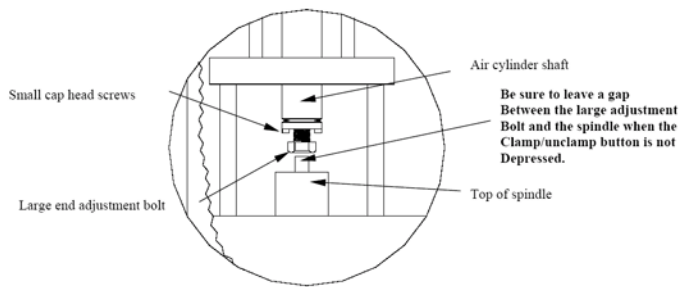

Figure 3
3. Loosen the two small cap head screws on each side of the large end adjustment bolt located on the bottom end of the air cylinder shaft, as illustrated in **figure 3**. This will allow the large center bolt to be adjusted.